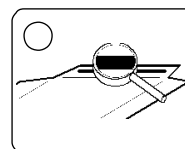
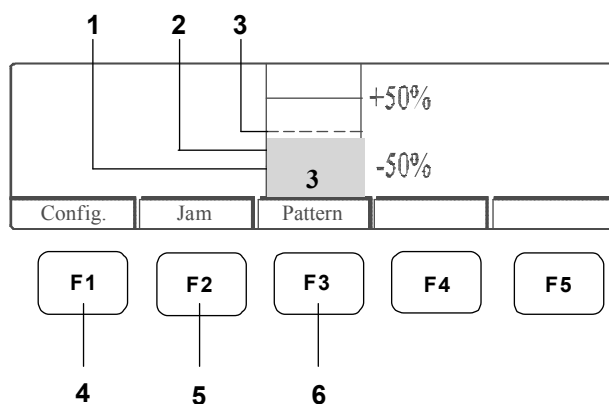

Figure 12-1. Inspection-Menu Icon Button
Figure 12-2. Glue-Volume Bar Graph for System with One Valve
1. Press the inspection-menu icon button (Figure 12-1). Either the *glue-volume* bar graph or the *glue-pattern* bar graph displays (Figures 12-2 and 12-4). If glue volume is turned on, the glue-volume bar graph displays. If glue volume is not turned on, the glue-pattern bar graph displays.
Notes! If glue volume is turned on, F3 toggles between the glue-volume bar graph and the glue-pattern bar graph. The glue-volume bar graph screen will show a bar graph for each active glue valve (Figures 12-2 and 12-3). Up to four valves can be displayed.